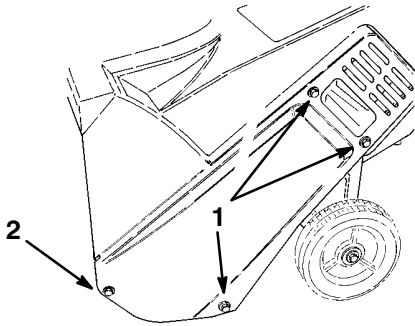

Figure 11
3. Remove three self-tapping screws, one capscrew, one washer, and one nut that secures the left side cover to the snowthrower frame (Fig. 11).